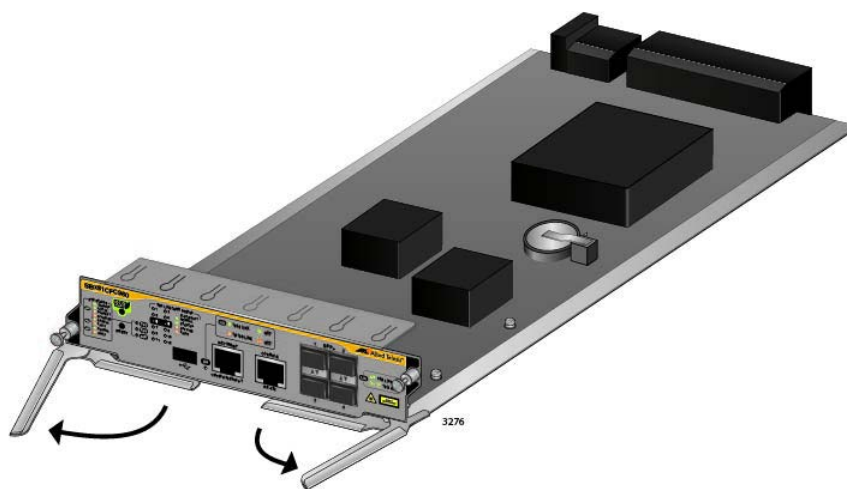

Figure 70. Opening the Locking Handles on the AT-SBx81CFC960 Controller Fabric Card
5. Move the locking handles on the front panel to the open position, as shown in Figure 70.